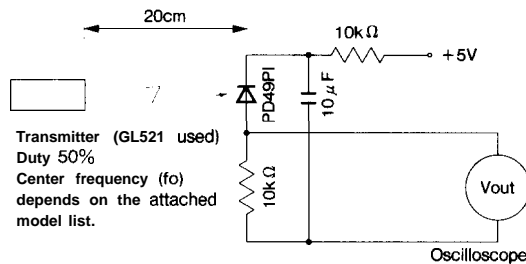
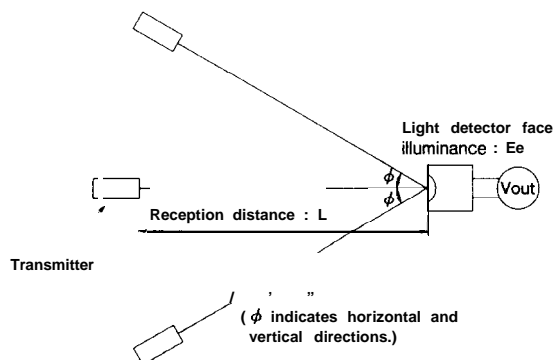

Fig. 1. Transmitter
Fig. 2. Standard optical system
*3 The burst wave as shown in the following figure shall be transmitted by the transmitter shown in Fig. 1.
Using the transmitter shown in Fig. 1, the output signal of the light detecting unit is good enough to meet the following items in the standard optical system in Fig. 2.
When $L=0.2$ to 6.5m , $E_e < 10\text{ lx}$ and $\phi = 0^\circ$ in Fig. 2, the output signal shall meet the electrical characteristics in the attached list.
When $L = 0.2$ to 4.5m , $E_e < 10\text{ lx}$ and $\phi \leq 30^\circ$ in Fig. 2, the output signal shall meet the electrical characteristics in the attached list.
When $L = 0.2$ to 3m , $E_e \leq 300\text{ lx}$ and $\phi = 0^\circ$ in Fig. 2, the output signal shall meet the electrical characteristics in the attached list.